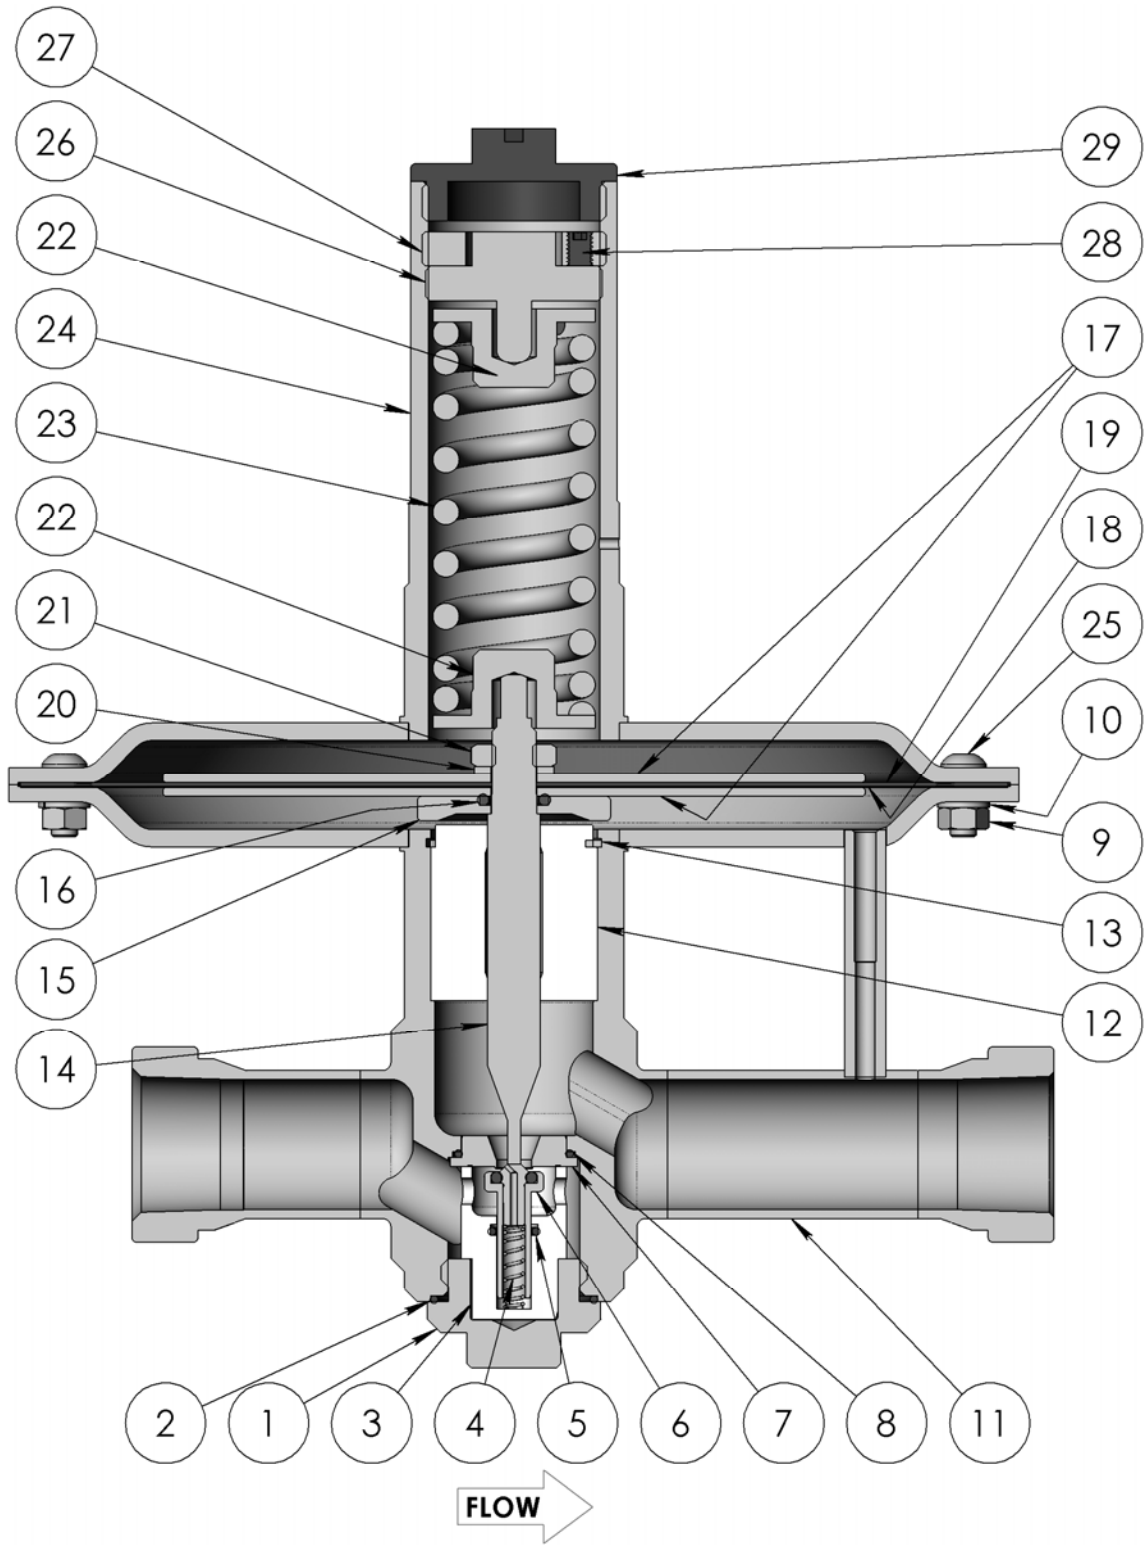

Fig 2
1. Secure the body (11) in a vise.
2. Fit the seat O-ring (8) onto the seat (7) then insert the seat (7) into the body (11).
3. Insert the poppet O-ring (5) into the balance housing (3) then lightly lubricate it.
4. Insert the poppet spring (4) and poppet (6) into the balance housing (3).
5. Fit the body plug O-ring (2) into the body (11).
6. Lightly lubricate the body plug threads (1).
7. Place the balance housing (3) into the body plug (1) then thread the body plug (1) into the body (11). Torque to 30 lbf·ft (40 N·m).
8. Insert the guide ring (12) into the body and retain it with the retaining ring (13).
9. Fit the seal housing (15), seal housing O-ring (16), first diaphragm plate (17), diaphragm (18), diaphragm support (19), and second diaphragm plate (17) onto the poppet stem (14) per Fig 2.
10. Lightly lubricate the poppet stem thread (14) then fit the lock washer (20) and diaphragm nut (21) onto it. Torque the nut to 7 lbf·ft (10 N·m).
11. Insert the poppet stem (14) through the guide ring (12).
12. Place one of the spring guides (22) and the set spring (23) onto the poppet stem (14).
13. Lubricate the recess of the remaining spring guide (22) then place this into the set spring (23).
14. Cover the spring with the spring housing (24).
15. Lightly lubricate the cap screws (25). Secure the spring housing (24) to the body (11) using the cap screws (25), washers (10), and nuts (9). Torque to 7 lbf·ft (10 N·m).
16. Lubricate the adjusting screw thread (26) and install into the top of the spring housing (24).
17. Fit the cover (29) into the top of the spring housing (24).